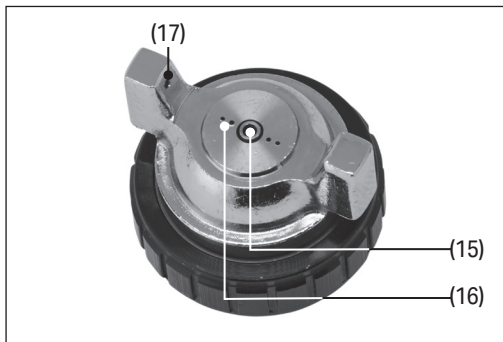

Fig. 13
The air cap (1) has three types of opening that affect the pattern of the fluid spray (Fig. 13):
- A hole for the nozzle head from which the fluid is dispersed (15).
- Atomising air holes (16) that break the fluid into a fine spray.
- Air horn holes (17) that shape the spray pattern as required.